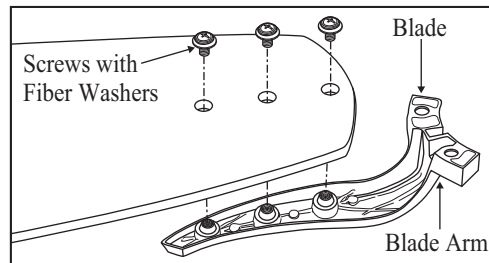

Figure 11
1. Attach blades to blade arm using the screws with fiber washers provided (Fig. 11). Start a screw into the blade arm, do not tighten. Repeat for the 2 remaining screws and washers.